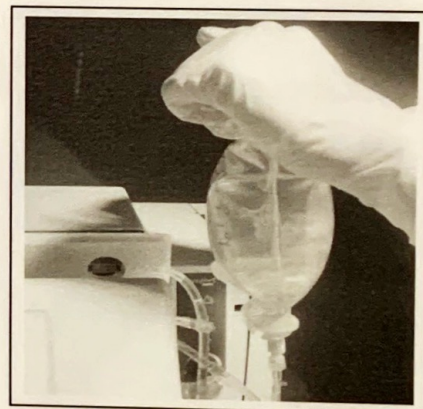

Fig. 2
6. Squeeze the saline bag until the patient lines have rinsed clear. If pressure exists, or air is present in the venous patient line (blue clamp), DO NOT attempt to Rinseback (see fig. 2).